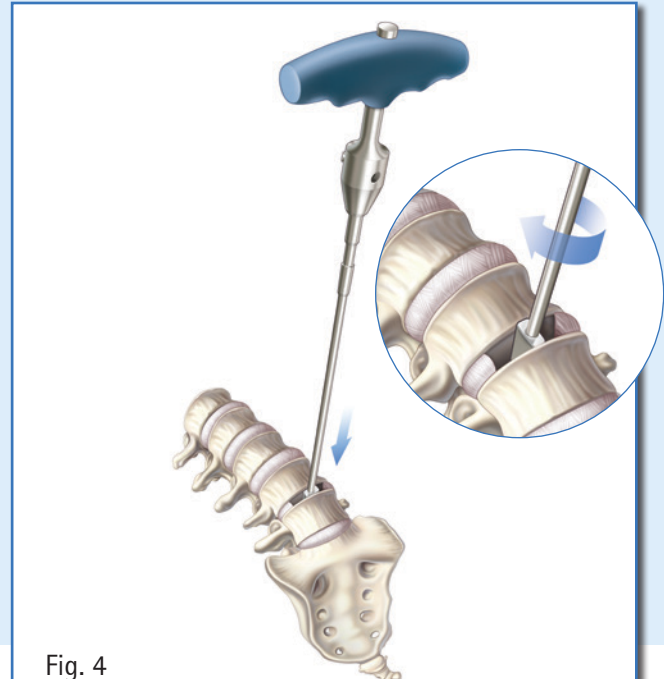

Fig. 4
- Rotate distractor by 90° to achieve specified working height (Fig. 4).